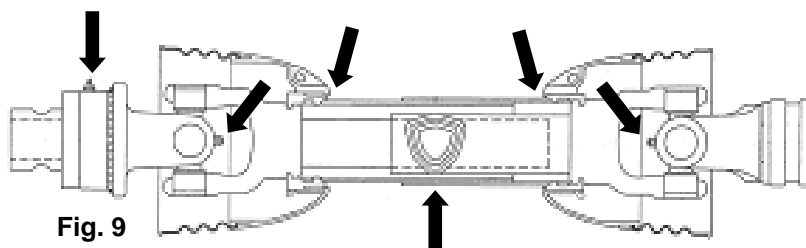

Fig. 9
- Lubricate the retaining collar on all the drive shaft guards (*Fig. 9*).
- Grease PTO inner tube and push pins (*Fig. 9*).